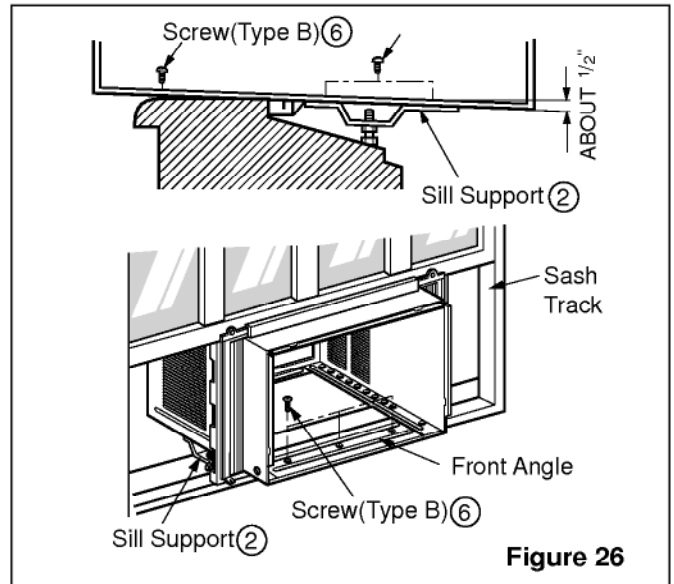

Figure 26
7. The cabinet should be installed with a very **slight tilt (about 1/2") downward** toward the outside (See figure 26).